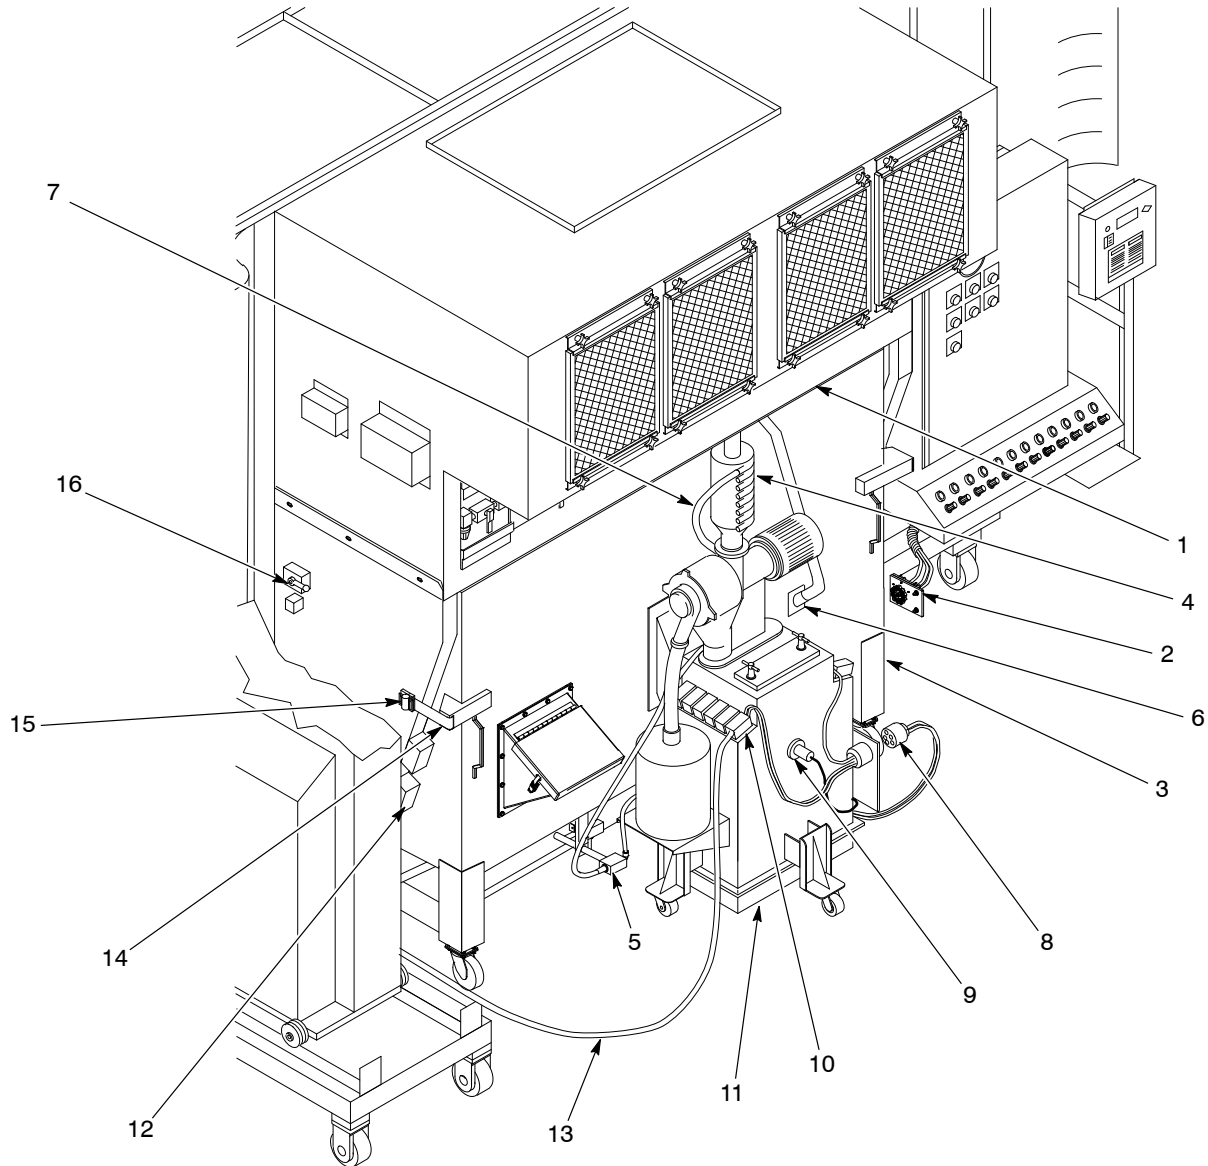

Figure 3-6 Installing a New Color Module and Feed Hopper; Steps 6–15 (2003 and later system shown)
**NOTE:** If the attached feed hopper is equipped with a sieve, accumulator, and level sensor, plug the ports in the accumulator after disconnecting the transfer hoses (see Figure 3-6, item 7). Plug the level sensor mounting hole.
2. See Figure 3-6. Position the portable feed hopper so the feed hoses (13) from the powder pumps can be connected to the guns.
3. Install a vent hose between the vent on the feed hopper lid and the vent-assist plate (6) on the color module. Clamp the hose to the hopper vent and the vent-assist plate.
6. Install new feed hoses (13) between the pumps and the guns. Use hoses that have already been used with the new color, if possible.
8. Connect the transfer hoses (7) from the transfer pumps (5) to the scrap drum lid.